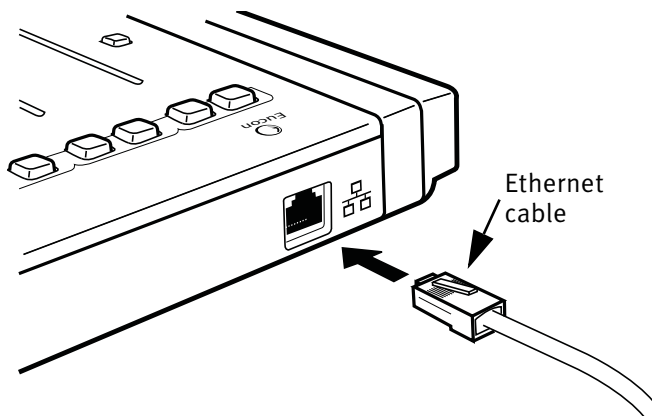

Figure 2-8 Ethernet cable and rear panel jack
6. Plug one end of the Ethernet crossover cable into the Ethernet jack (labeled with ) on the rear panel of the MC Control (Figure 2-8).